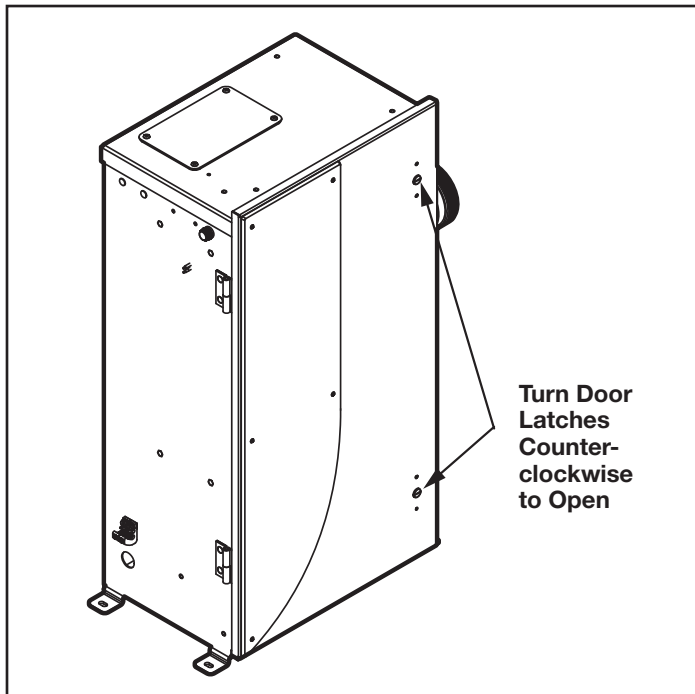

Figure 5. JAOPX500 Door Latches
Connect the Jandy AOP system to the pool timing clock so it operates simultaneously with the pool pump. The Jandy AOP system has an access hole for a 1/2" conduit fitting. Install fitting (not provided) and run wire to terminal block inside unit. Remove the cover (refer to *Ozone Module Servicing*) and locate the terminal block (refer to Figure 5) on the left side of the enclosure. Connect Line 1, Line 2, and ground to the terminal block as indicated by the label on the generator bracket. Refer to the **IMPORTANT SAFETY INSTRUCTIONS** at the beginning of this manual for important wiring information.
3. Use a flat blade screwdriver to turn the door latches counter clockwise and open the door. See Figure 5.
2. Use a flat blade screwdriver to turn the door latches counter clockwise and open the door. See Figure 5.
4. Loosen or remove the tubing clamps both ends of the ozone gas line. Use pliers if necessary to twist and unlock the clamps. See Figure 5.